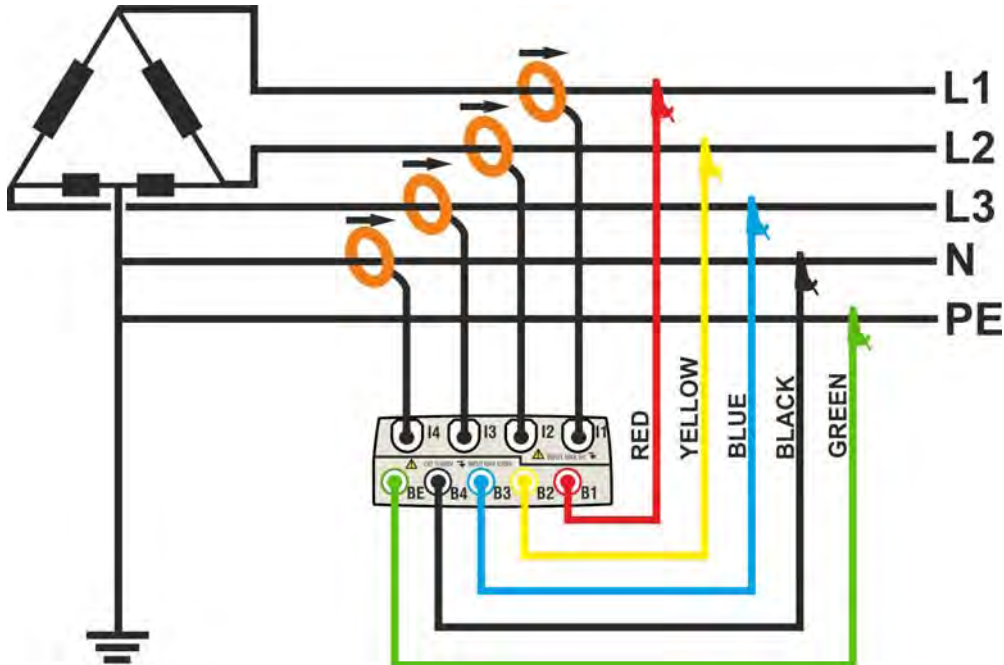

Fig. 123: Meter connection in a three phase 4-wire 3P HL system – ENG\_UK type
2. Connect voltage test leads on Phases L1, L2, L3, N and PE cables considering the colours as shown in Fig. 123. **Verify the result “123” at display relative to a correct phase sequence indication** (see § 5.2.1) and perform the corrections if necessary.
3. Connect the transducer current clamps on Phase L1, L2, L3 and N cables as shown in Fig. 123 respecting the clamp’s arrow direction indicating the current standard sequence from generator to load. **On Real Time Values’ section screens (selecting a 3 wire system preliminarily) always verify the positive value of Active Power and the power factor relative to load which should be normally inductive** before starting a recording. Reverse the clamp by 180 degrees on cables in case of negative readings.